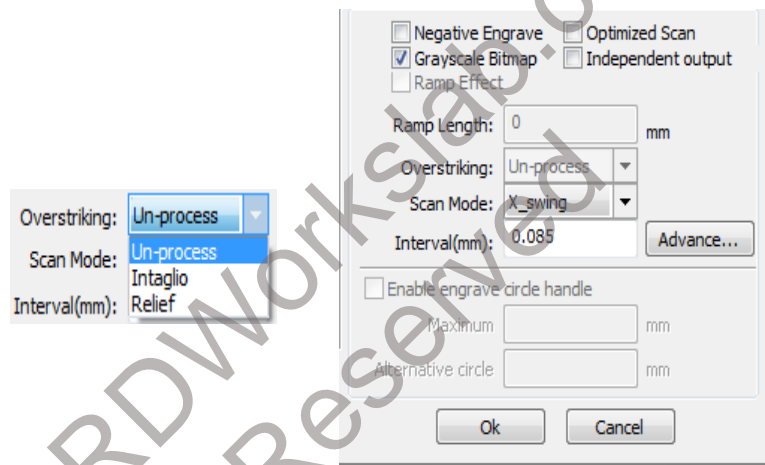

Figure 97
Figure 97 illustrates the Layer Parameter pop-up as it appears when a bitmap object layer is selected and Processing Mode is set to Scan.
**Bitmap Scan:** supports all except for Ramp Effect and the Engrave Circle handle functions that are grayed out in **Figure 97**.